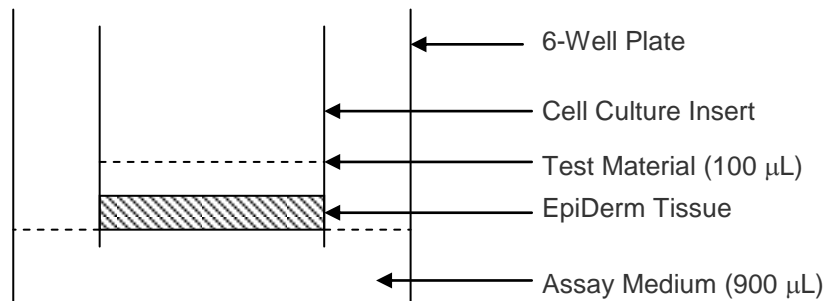

Figure 1: Dosing Configuration
d) **Apply dose (liquids):** Add 100  $\mu$ L of test material into the cell culture insert atop the EpiDerm sample. Do not add the test material to the assay medium in the well. Negative controls (no dose, or diluent for diluted samples) should be treated in an identical manner to the dosed inserts. See **Figure 1**.